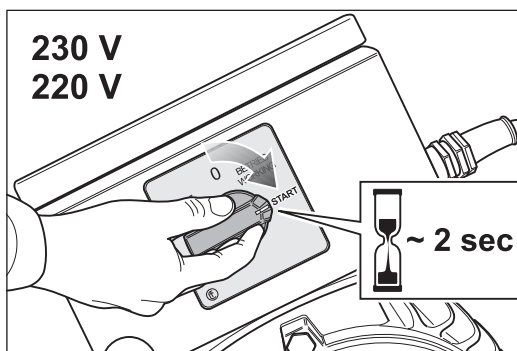

Fig. 23 To switch on the machine turn the switch button at the motor to position -START- and hold the switch button for around 2 seconds in this position.
- 2 To switch on the machine turn the switch button at the motor to position -START- and hold the switch button for around 2 seconds in this position (fig. 23).